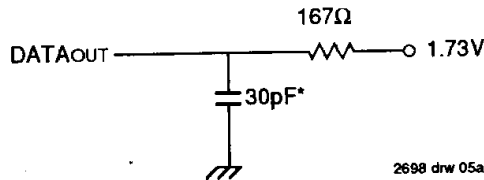

Figure 1. Equivalent Output Load
Output Load	See Figures 1 & 2
1. Transition is measured $\pm 500\text{mV}$ from low or high impedance voltage with load (Figures 1 and 2).